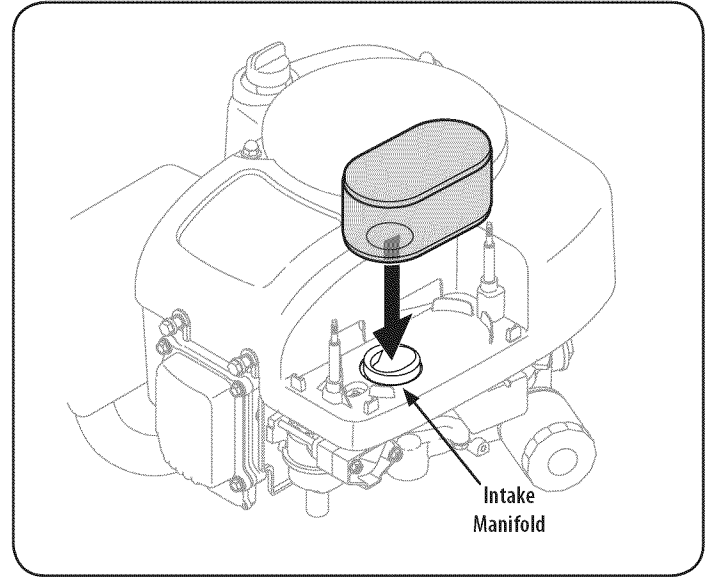

Figure 28
- Attach the new air filter with foam element, aligning the hole in the air filter with the intake manifold. See Figure 28.